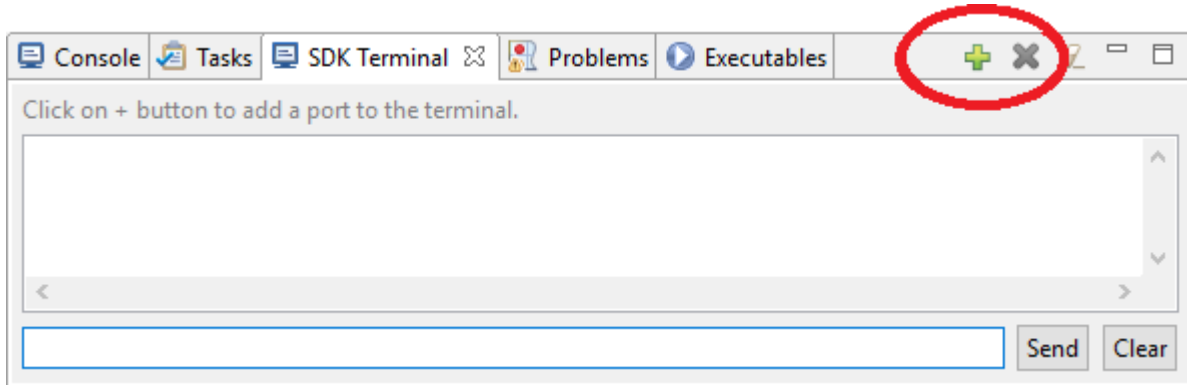

Figure 32: Creating a new serial connection.
12. To connect to the ZedBoard serial port, select the **SDK Terminal** tab in the console panel, then click the **+** to create a new serial connection, as in Figure 32.